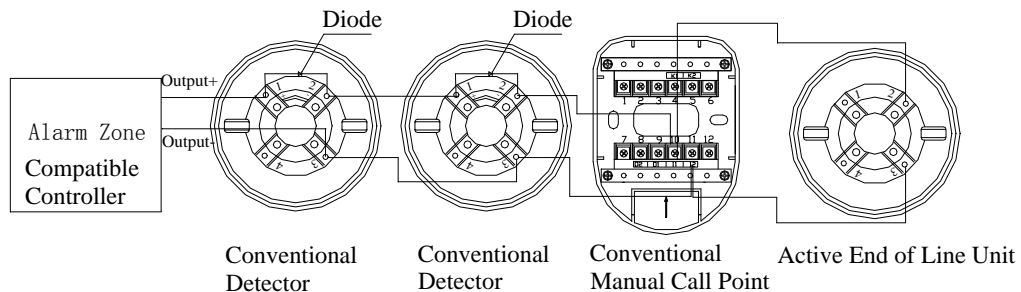

Fig. 6 System application
- When the active end of line unit is not used as a detector base, system application is shown in Fig. 6.